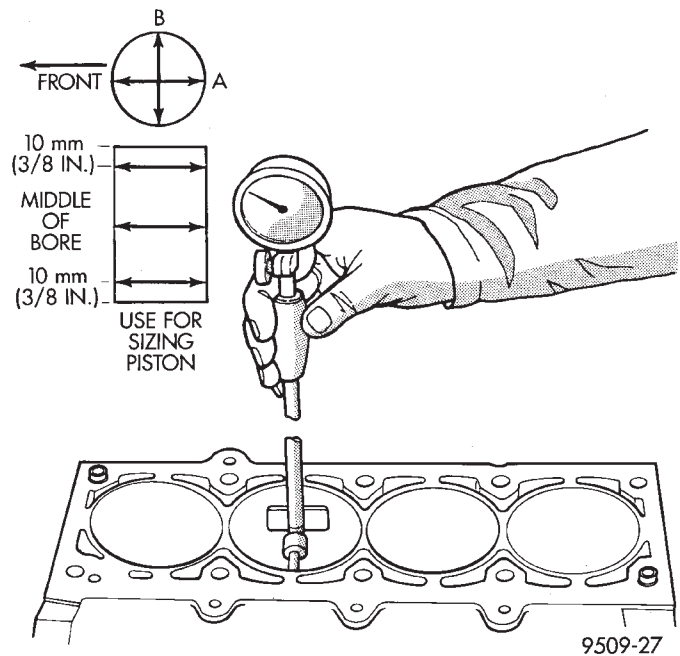

Fig. 69 Cylinder Bore Measurement
(1) It is mandatory to use a dial bore gauge to measure each cylinder bore diameter (Fig. 69). To correctly select the proper size piston, a cylinder bore gauge, capable of reading in 0.003 mm (.0001 in.) INCREMENTS is required. If a bore gauge is not available, do not use an inside micrometer.